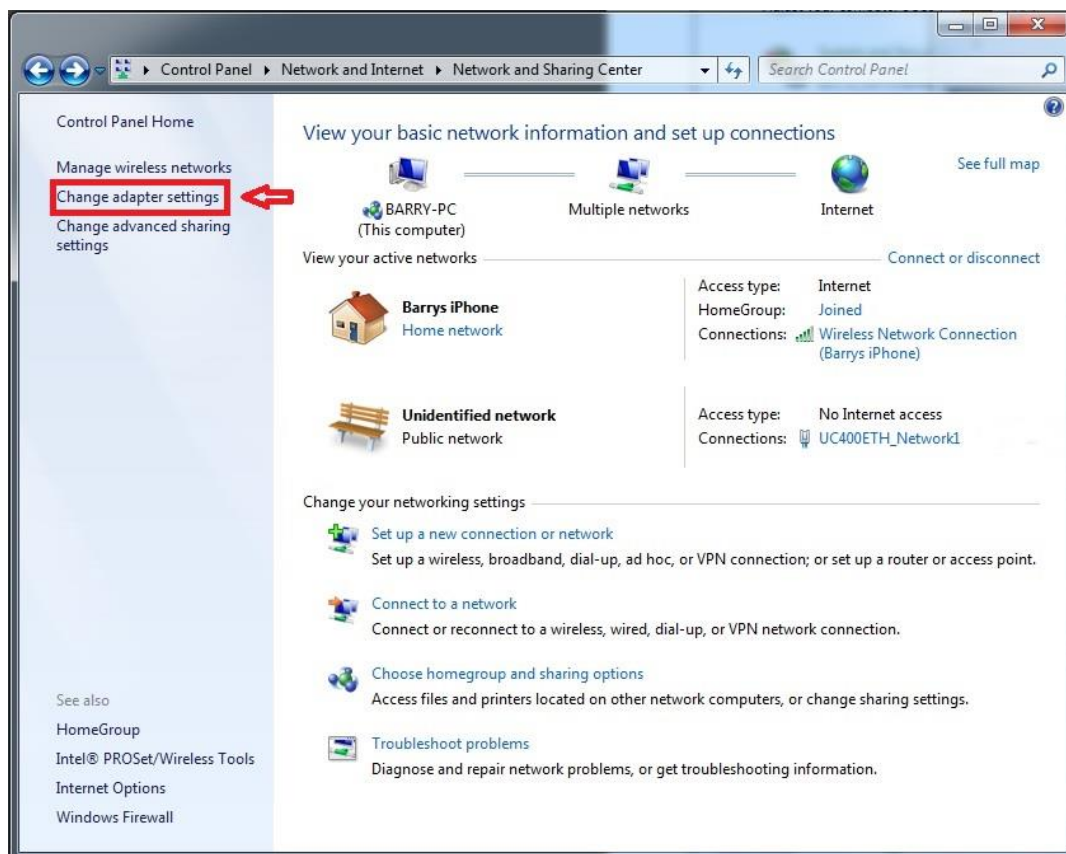

Figure 27: Networks and sharing centre – Change Adapter Settings
- 3- Rename the connection by clicking the change adapter settings on the left side of the window. See Figure 27.